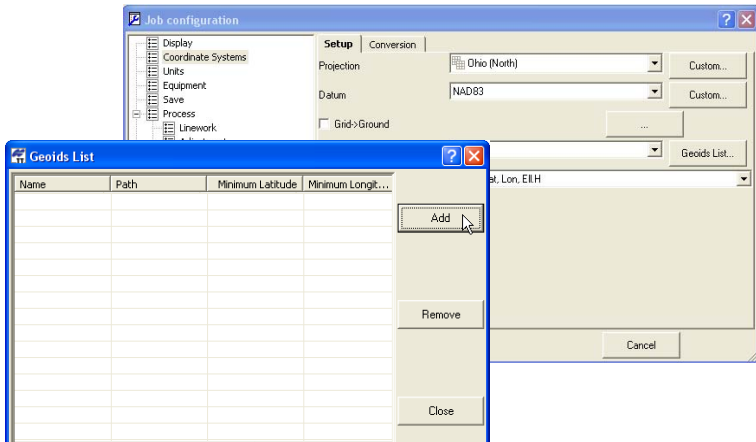

Figure 2-26. Add Geoids List
1. Click the **Geoids List** button to import a geoid model to Topcon Tools. Click **Add** to open a geoid (Figure 2-26).